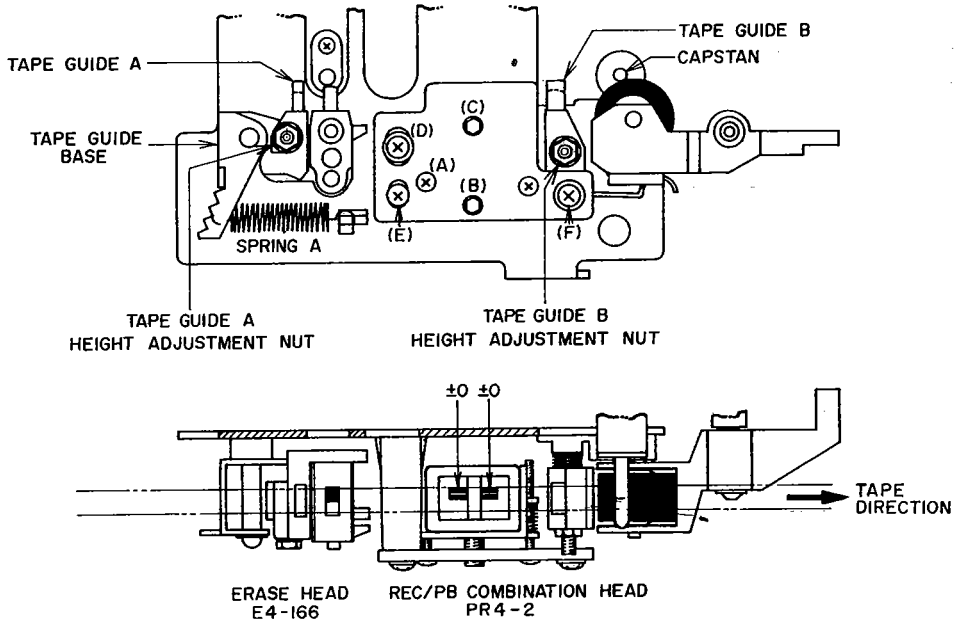
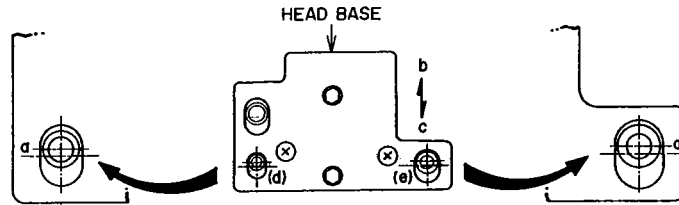
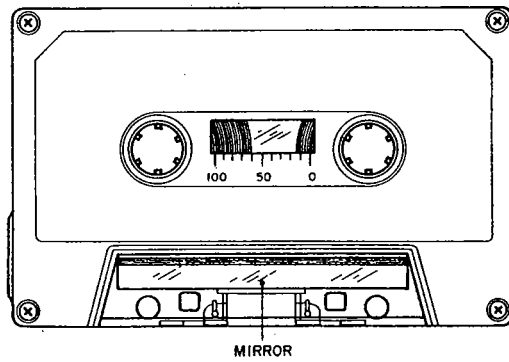

Fig. 7
Fig. 8
Fig. 9
(Refer to Fig. 7 and Fig. 9)
- 1) When using an ordinary cassette, the tape guides and heads, etc. are not visible. As shown in Fig. 9 use a cassette tape from which part of the cassette case has been cut out and a mirror installed for easy visibility of the head area when making tape guide height adjustment.
2. HEIGHT ADJUSTMENT OF RECORDING/PLAYBACK COMBINATION HEAD (Refer to Fig. 7)
- 2) As shown in Fig. 7 adjustment head height with screws (A), (B) and (C) until the upper edge of the left channel REC/PB Combination head core.
3. AZIMUTH ALIGNMENT ADJUSTMENT OF RECORDING/PLAYBACK COMBINATION HEAD (Refer to Fig. 7)
4. ADJUSTMENT OF THE RECORDING/PLAYBACK COMBINATION HEAD PROJECTION (Refer to Fig. 7 and Fig. 8)
- 1) Fix the head base with screws (D) (E) and (F). In doing so, the center of the shaft should be placed at points (a) of head base holes (d) and (e) as shown in Fig. 8. Conduct adjustments 2 and 3 above.
- 5) If there is a level fluctuation, the projection of the recording/playback combination head is too shallow and the head base must be moved slightly toward "b" in Fig. 8. If the wow and flutter characteristics are poor, the recording/playback combination head projection is too deep and the head base must be moved slightly toward "c". Repeat 2) - 4) above until optimum position is obtained.
4. When a mirror installed cassette test tape as shown in Fig. 9 is required, it can be ordered from AKAI Electric Co.
5. The position where spring (A) meets the tape guide base is adjusted at the place of manufacture and readjustment is unnecessary.